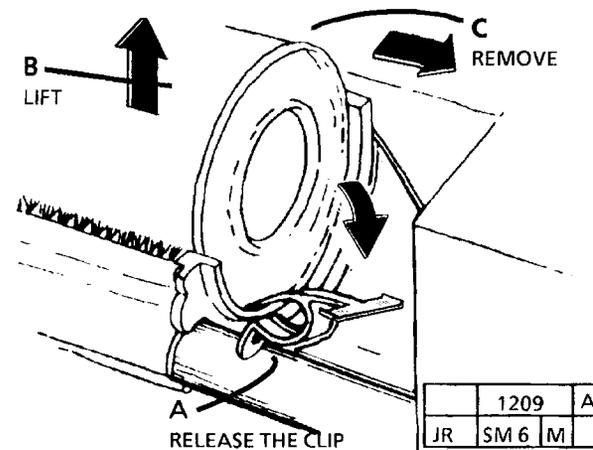

Figure 17. Remove the Dry Ink Cartridge
30. (FIGURE 17): REMOVE THE DRY INK PLUS CARTRIDGE.